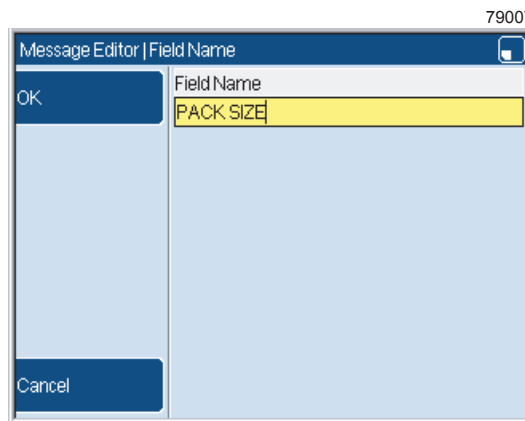

Figure 9. Field Name page
- 2 Select the **Field Name** option and enter the name "PACK SIZE", as shown in Figure 9.
- Select the **Prompt Type** option to display the **Prompt Type** page, and then highlight the **Prompt List** type, as shown in Figure 9.